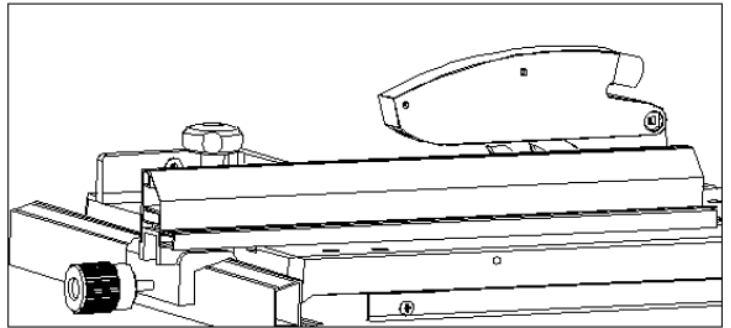

Fig.14
- 2) Ensure the saw blade teeth protrude slightly beyond the workpiece being cut (Fig. 14).